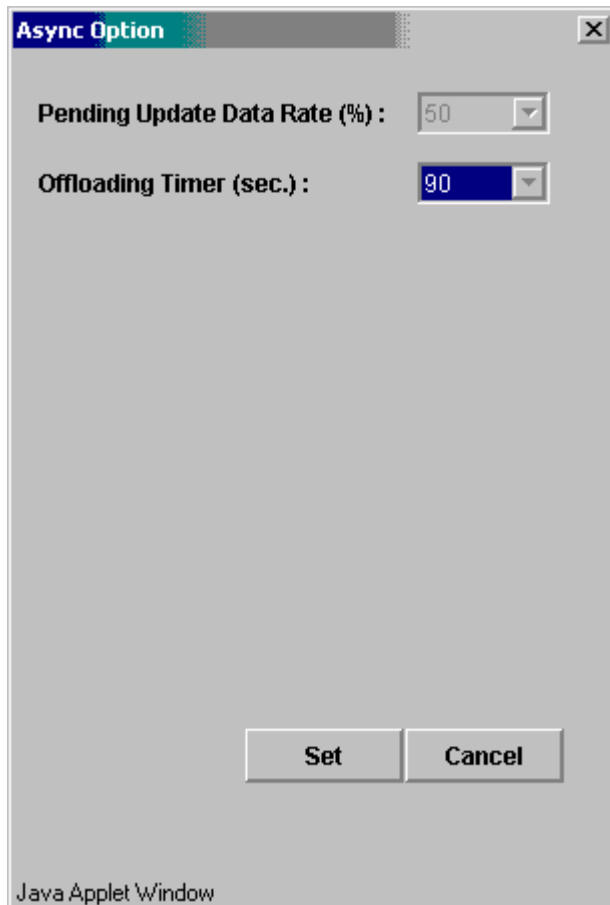

Figure 4.25 Async Option Panel
The Async Option panel (see Figure 4.25) allows you to set and modify the TrueCopy Asynchronous copy option parameters for the connected subsystem. To open the Async Option panel, right-click on the CT groups and select the **Async Option** command.
2. Right-click on the CT group list (you do not need to select anything), and select **Async Option** to open the Async Option panel (refer to Figure 4.25). The async options can only be modified when no TrueCopy Asynchronous pairs or groups exist in the connected CU (P-VOLs or S-VOLs).